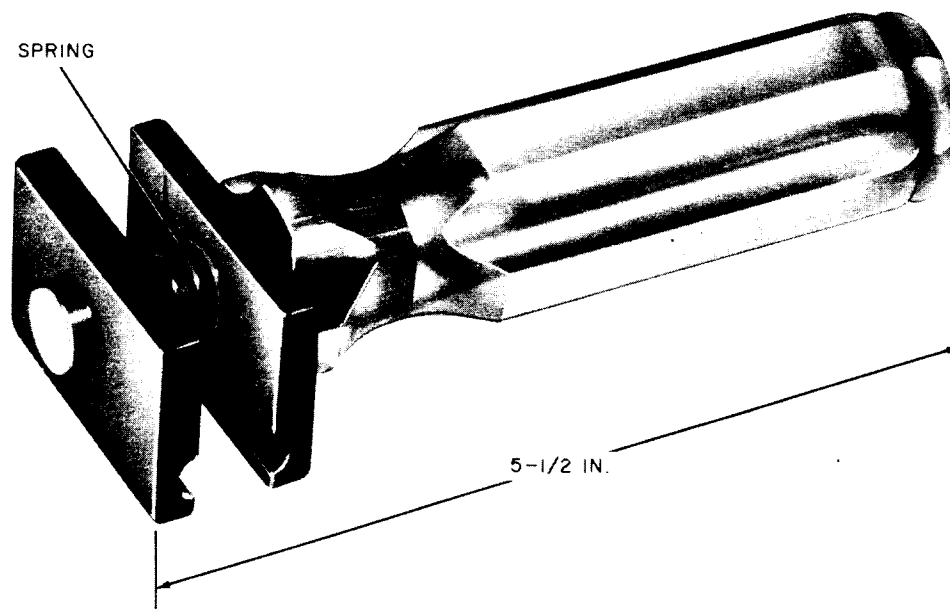

Fig. 1—D Lashing Wire Grip
2.01 The D lashing wire grip (Fig. 1) consists essentially of two jaws which are actuated by turning a plastic handle with a fluted design.